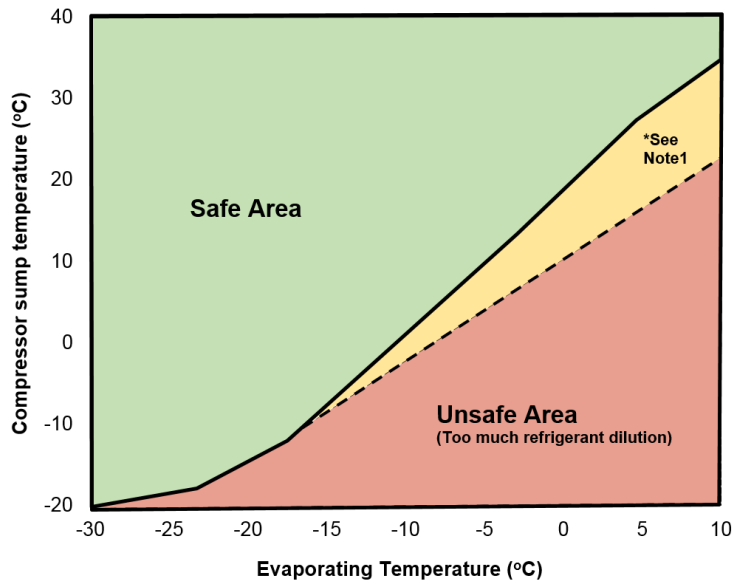

Figure 15: Oil dilution chart
- Before compressor start with the matched pair of XHV\* and ED3, the pressure difference in the system has to be below 10 bar. If the pressure difference is reduced by opening the expansion valve, care must be taken to avoid liquid flood back to the compressor – also see chapter 3.3 "Accumulators" and **Figure 15**.
To determine if the accumulator can be removed, dedicated tests must be carried out to ensure that excessive liquid does not flood back to the compressor during defrost or varying loads. The defrost test must be done at an outdoor ambient temperature of around 0°C in a high relative humidity environment. Liquid flood back must be monitored during reversing valve operation, especially when coming out of defrost. Excessive flood back occurs when the sump temperature drops below the safe operation line shown in **Figure 15**.